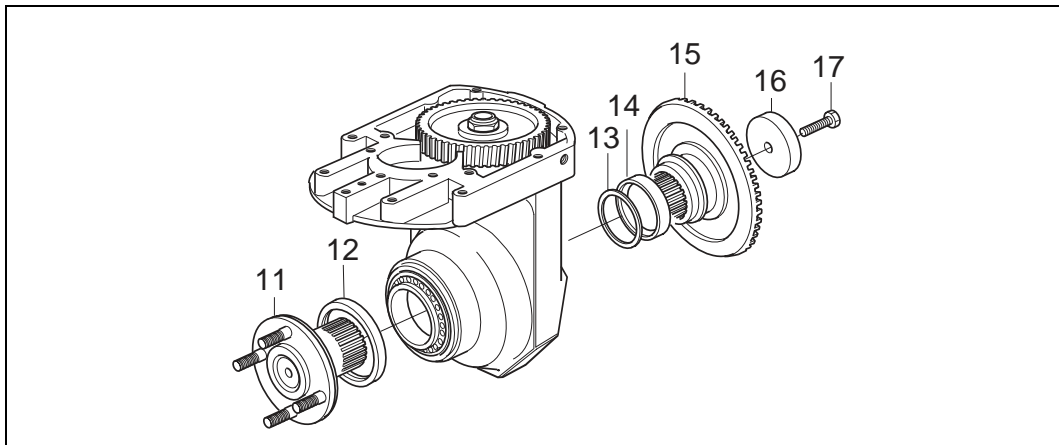

Figure 5.4 Fit the wheel hub and crown wheel.
3. Fit the wheel hub, pos. 11, and crown wheel, pos. 15 (see figure 5.4).